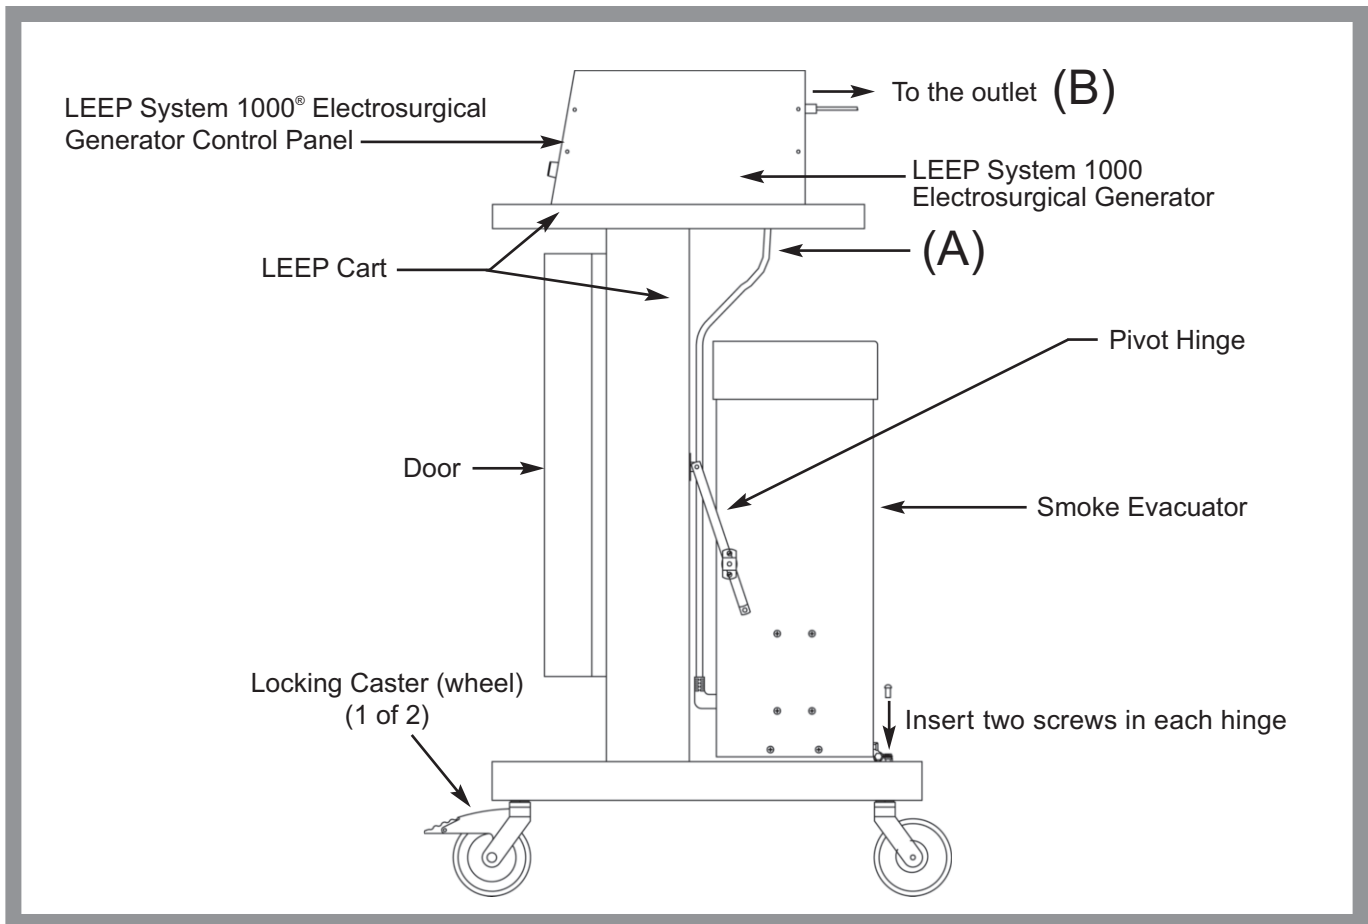

Figure 1
3. Remove the screws on the side of the Smoke Evacuator and then fasten down the bracket of the drop hinge to the Smoke Evacuator. See Figure 1.
After unpacking the Electro-surgical Generator box, align the pins on the bottom of the Electro-surgical Generator with the corresponding holes located on the top of the Cart. See Figure 1.
1. Plug in the cord running from the Electrosurgical Generator to the receptacle at the back of the Smoke Evacuator [refer to (A) in Figure 1].
2. **Make sure both On/Off Switches on the Electrosurgical Generator panel are in the OFF position.** Refer to **1** and **12** in Figure 2. Next, attach the power cord to the receptacle at the back of the Electrosurgical Generator and then into a hospital-grade grounded wall outlet to obtain power [refer to (B) in Figure 1].